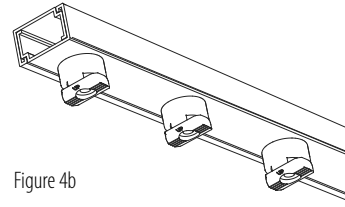

Figure 4b
b. Ensure Quick Lock connectors are in the same orientation that the sticks will be positioned. (Figure 4b)